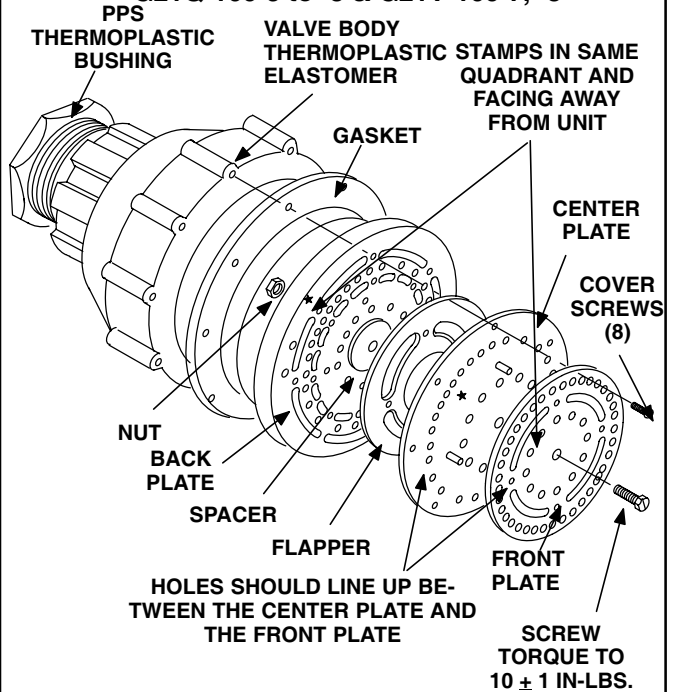

FIGURE 71
- EXTREME CARE SHOULD BE TAKEN WHEN DISASSEMBLING INTERNAL COMPONENTS OF THE VALVE. If taken apart, plates could be rotated out of phase or reversed. Spacer thickness has an extremely low tolerance. Note that each plate has a stamp of the spacer thickness and a star or the words "THIS SIDE OUT." These stamps should all lie in the same quadrant and face the outside of unit. See figures 71 and 72. Newer air flapper valve assemblies for the -40 / 50 / 60 / 80 contains a plate made from PPS thermoplastic with a